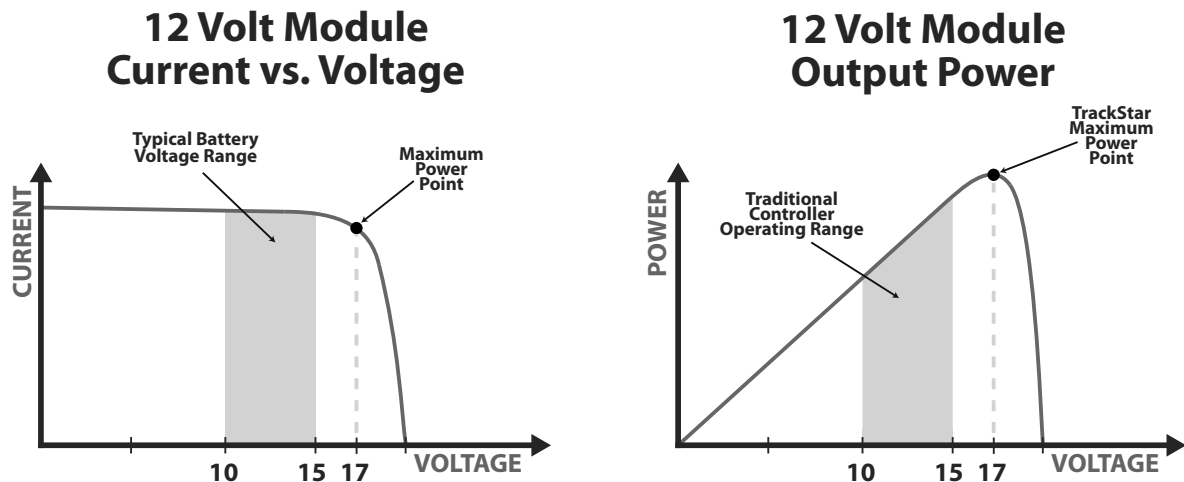

Figure 4-1. Nominal 12 Volt Solar Module I-V curve and output power graph.
Traditional controllers connect the solar module directly to the battery when recharging. This requires that the solar module operate in a voltage range that is usually below the module's V_{mp} . In a 12 Volt system for example, the battery voltage may range from 10 - 15 Vdc, but the module's V_{mp} is typically around 16 or 17 Volts. Figure 4-1 shows typical current vs. voltage and power output curves for a nominal 12 Volt off-grid module.
The array V_{mp} is the voltage where the product of output current and voltage (Amps x Volts) is greatest, which falls on the “knee” of the solar module I-V curve as shown on the left in Figure 4-1.
The TriStar MPPT provides seven (7) standard battery charging settings that are selected with the settings switches (see Figure 4.1 above). These standard charging settings are suitable for lead-acid batteries ranging from sealed (gel, AGM, maintenance-free) to Flooded and L-16 cells. In addition, an 8th charging setting provides for custom set-points using MSView™ PC software. Table 4-1 above summarizes the major parameters of the standard charging settings.